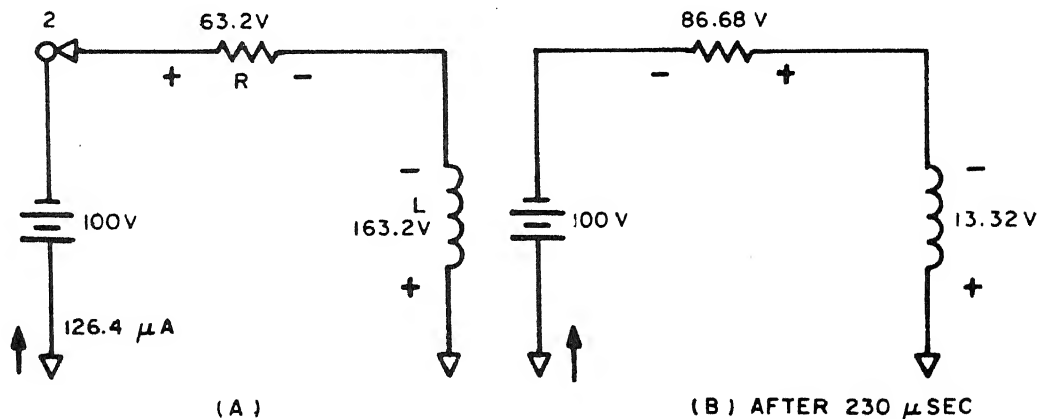

Figure 8
3. The switch is now switched to position #2. Since the inductor opposes any change in current, the current that was flowing through the inductor in position 1 tries to continue. Figure 8 shows this condition.